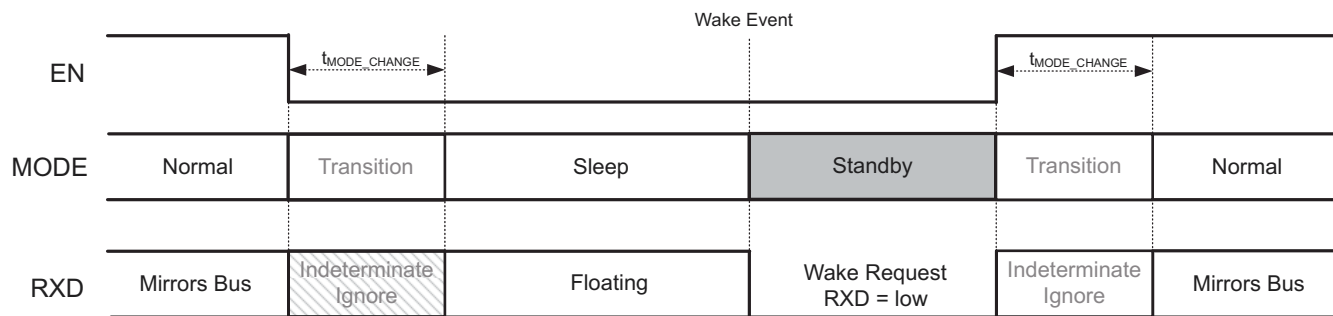

Figure 3. Mode Transitions
**Application Hint:** When using the HVDA100 in systems which are not controlled via the INH output, but rather are monitoring the RXD pin for a wake-up request, special care should be taken during the mode transitions. The output of the RXD pin is indeterminate for the transition period between states as the receivers are switched. The application software should not look for an edge on the RXD pin indicating a wake-up request until  $t_{MODE\_CHANGE}$ . This is shown in Figure 3.